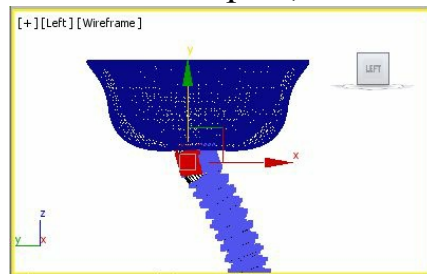

Figure 10-71 The vertices of duct aligned in the Left viewport
- Convert *duct* into editable poly and select the **Vertex** sub-object level. Next, move and rotate its vertices to align with *washbasin* in the Left viewport, as shown in Figure 10-71.